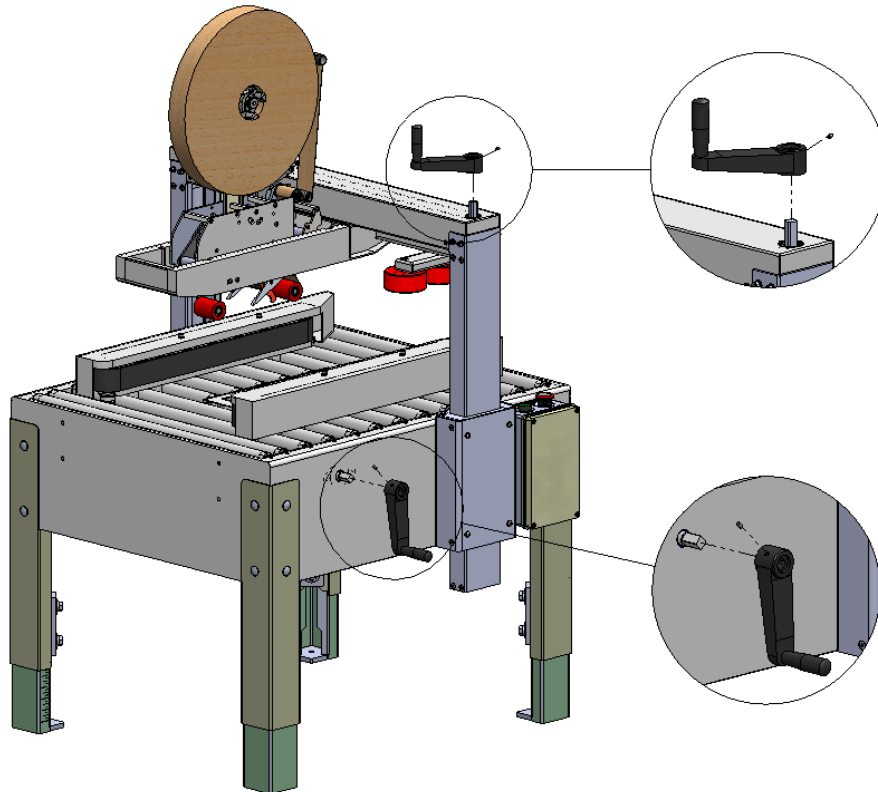

Figure-11
- ii. Install adjustment handle onto square shaft as shown in **Figure-11**